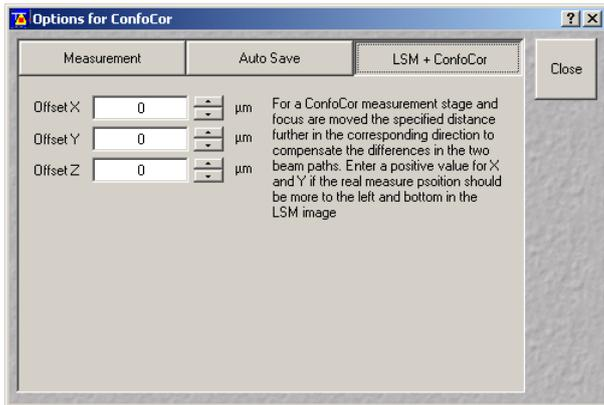

Fig. 4-96 The Settings for user window with the LSM+ConfoCor activated
- Type the measured distance correction values under **Settings** in the **LSM + ConfoCor** button (see Fig. 4-96).